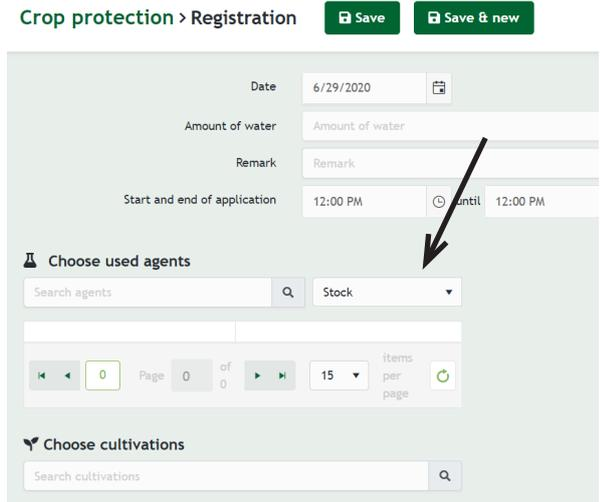

Figure 1
2. Click on '+ Record-keeping' (see figure 1).